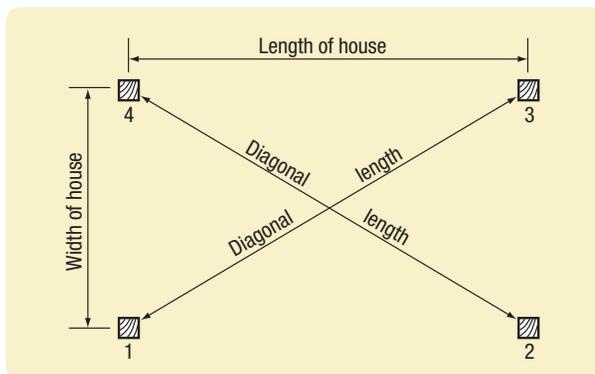

Figure 4.12 Measuring diagonally to check that the dimensions are accurate
- Check accuracy and squareness by using two pieces of strings to measure the two diagonals, which are the distances between Peg 1 and Peg 3, and Peg 2 and 4. Figure 4.12 shows this. These distances must be the same in length. If they are not equal, the setting out is not square; this must be corrected before corner profiles are constructed.